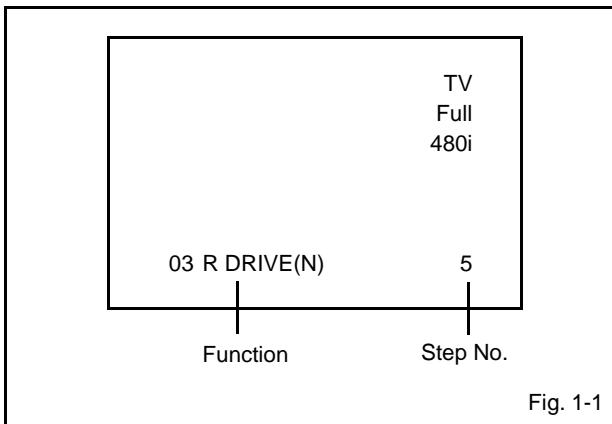

Fig. 1-1
2. Press the VOL. DOWN button on the set and the channel button **(9)** on the remote control for more than 2 seconds to display adjustment mode on the screen as shown in **Fig. 1-1**.
5. Activate the adjustment mode display of **Fig. 1-1** and press the channel button **(03)** on the remote control to select "R DRIVE(N)".
7. Adjust the VOL.UP/DOWN button on the remote control to whiten the R DRIVE(N), R CUTOFF(N), B DRIVE(N), B CUTOFF(N), R DRIVE(C), R CUTOFF(C), B DRIVE(C), B CUTOFF(C), R DRIVE(W), R CUTOFF(W), B DRIVE(W) and B CUTOFF(W) at each step tone sections equally.
4. Activate the adjustment mode display of **Fig. 1-1** and press the channel button **(32)** on the remote control to select "BRIGHTNESS CENT".
10. Activate the adjustment mode display of **Fig. 1-1** and press the channel button **(32)** on the remote control to select "BRIGHTNESS CENT".
19. Activate the adjustment mode display of **Fig. 1-1** and press the channel button **(32)** on the remote control to select "BRIGHTNESS CENT".